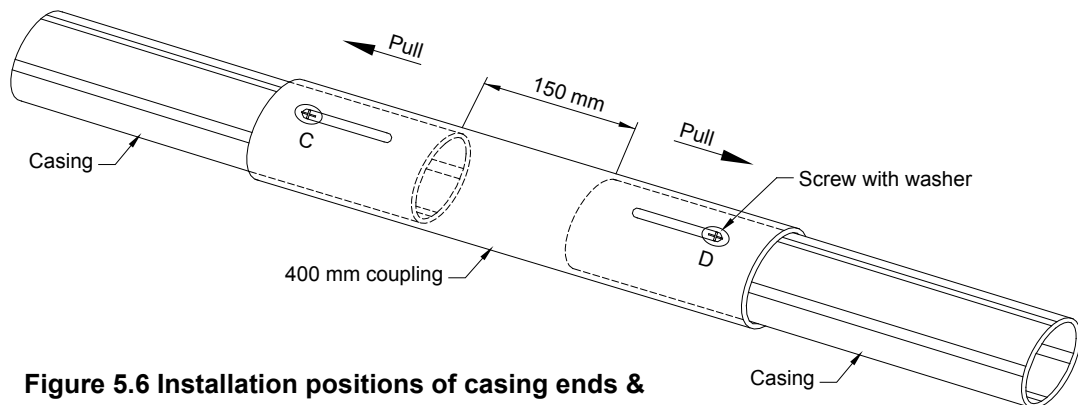
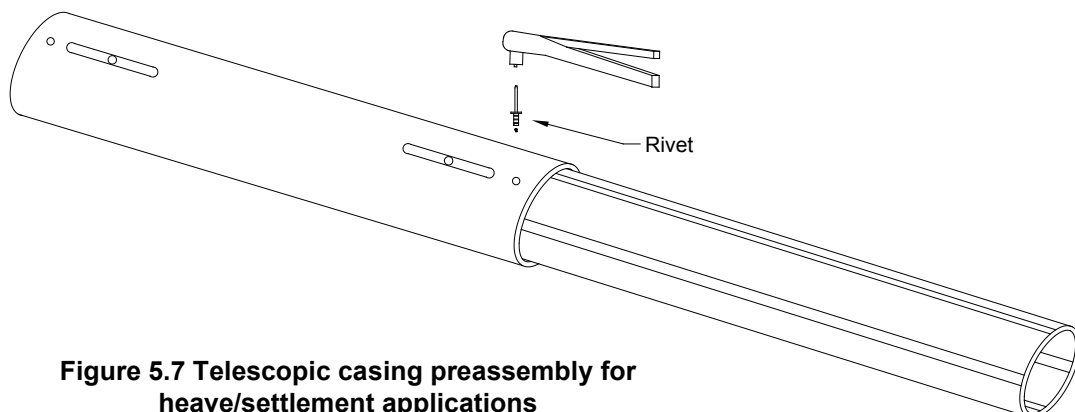

Figure 5.6 Installation positions of casing ends & telescopic coupling for settlement monitoring
Figure 5.7 Telescopic casing preassembly for heave/settlement applications
- c. Pull casing out so that screw comes to position C as shown in figure 5.6. Tighten screws. Do not over tighten. When the other casing is finally assembled at site, a space of 150 mm will be left between the casing ends to take care of settlement.
- d. In case settlement/ heave are both possible at location where casing is to be installed, adjust position of screws in groove for an appropriate length of travel as shown in figure 5.6. If such a casing is required to be lowered from top into a borehole, aluminium pop rivets may have to be used to keep coupling in position (refer to figure 5.7). Seal joint between telescopic coupling and casing with mastic waterproof tape and BOPP tape as described in § 5.1 (c) and 5.1 (d).